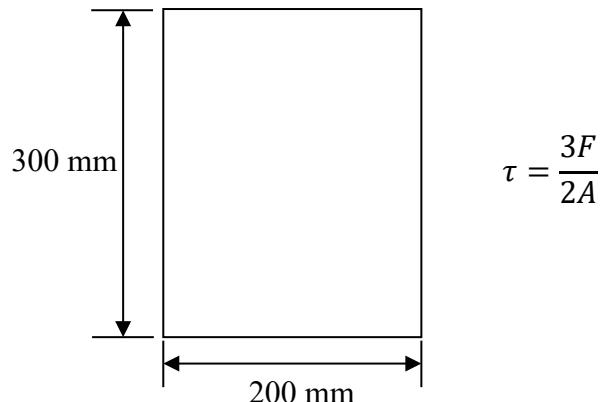

Figure B3(a) / Rajah B3(a)
- CLO2 (a) Figure B3(a) shows a rectangular beam section carries a shear force of 70 kN. Using formula given, estimate the maximum shear stress in the beam section.